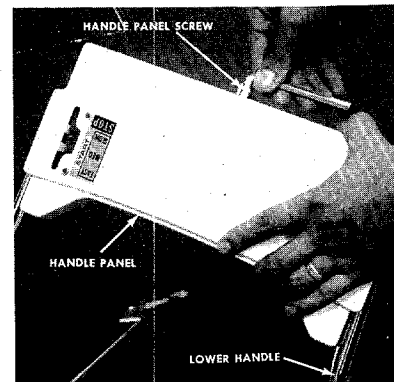

FIGURE 3. HANDLE PANEL ASSEMBLY
4. Place the handle panel over the lower handle and fasten with the handle panel screw using a $\frac{5}{16}$ " wrench. See figure 3.